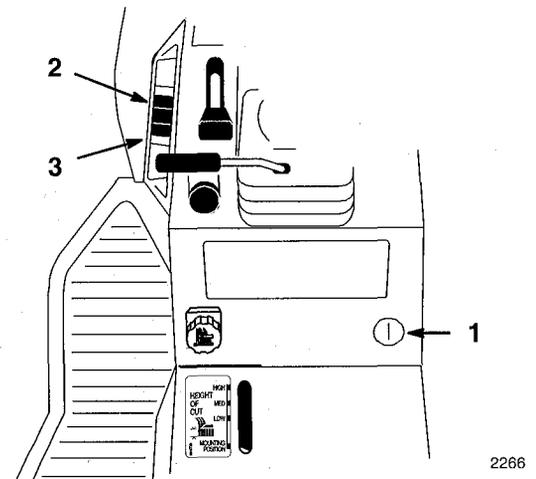

Figure 27
The attachment power lift (optional on some models) (Fig. 27) is used to raise and lower attachments.
1. Turn key to the "ON" or "RUN" position (Fig. 27).
2. Push the lift switch in the "UP" direction to raise the attachment lift (Fig. 27). This will lift and hold the attachment in the up, or raised position.
2. Push the lift switch in the "DOWN" direction to lower the attachment lift (Fig. 27). This will lower the attachment lift.